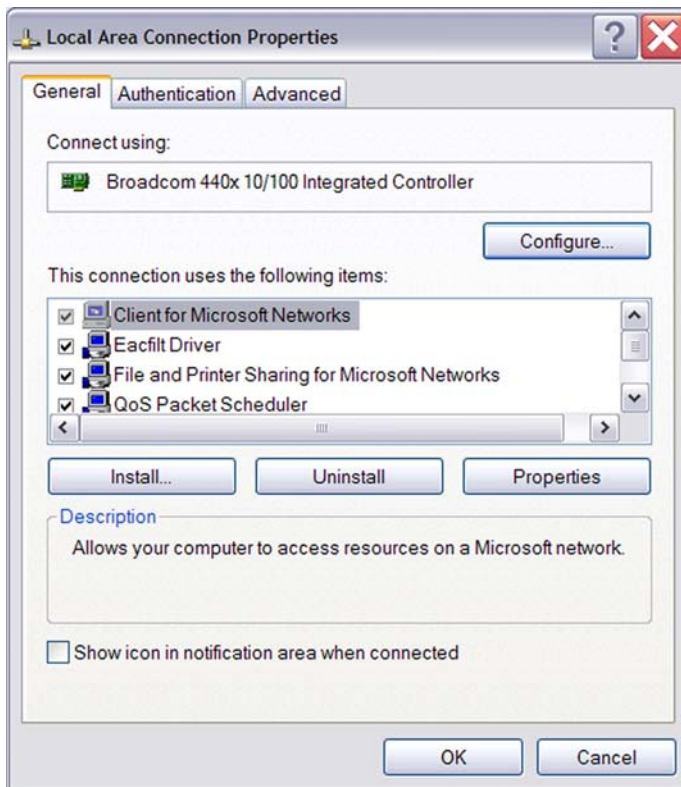

Figure 9. The Local Area Connection Properties Dialog
3. In the Local Area Connection Status dialog box, click the Properties button. The Local Area Connection Properties dialog box appears (Figure 9).